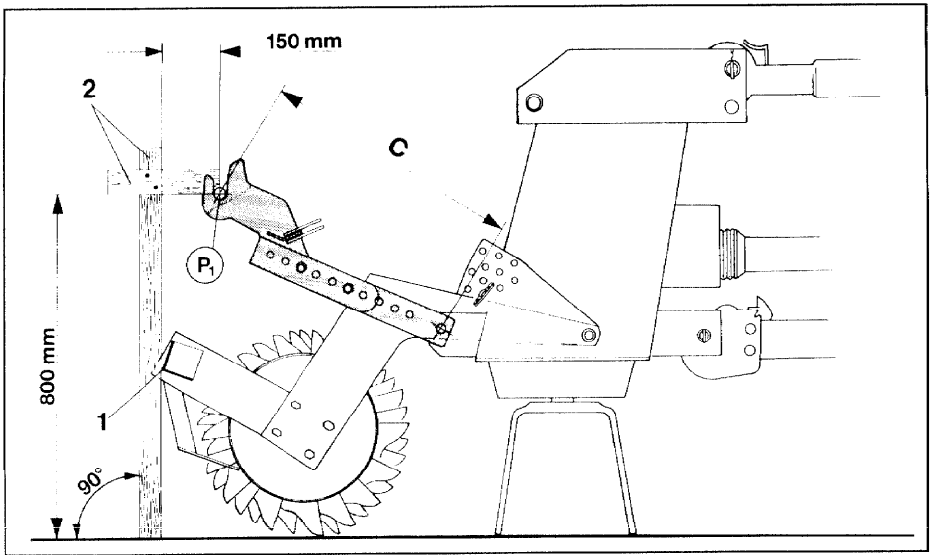

Fig. 18
Determining the spacing "C" (see Fig. 18):
The measurement "C" (Fig. 18) is the distance between the lower link point of the soil tillage implement and the theoretical coupling point "P₁" of the seed drill. Therefore first the theoretical coupling point "P₁" should be determined as follows:
- The point "P₁" is 800 mm above the ground and 150 mm in front of the rear outer edge of the roller frame (Fig. 18/1).
This is the position which the point "P₁" will have during operation on the field. As an aid for determination of the point "P₁" You may use two wooden boards (Fig. 18/2) with the mentioned lengths and an angle.